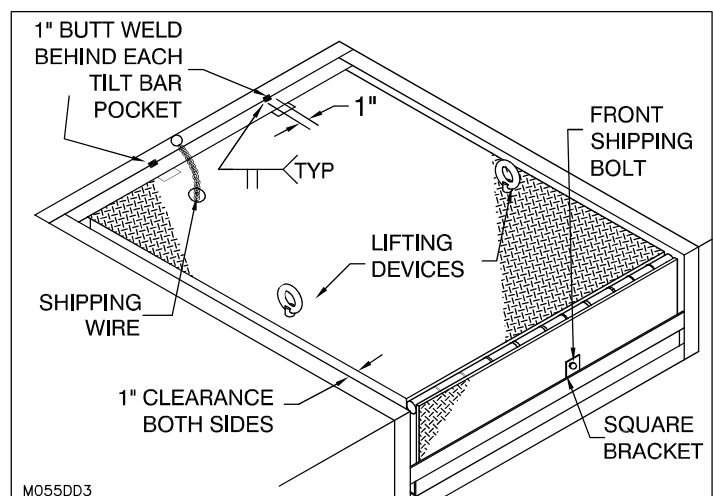

Figure 17: Hoist Leveler with Chain
4. ___ Hoist the leveler into the pit with chain using appropriate lifting devices (See "Figure 17: Hoist Leveler with Chain" on page 13) and position the leveler into the pit opening.
5. ___ Assure that 1" clearance is maintained between the side of the leveler platform and the side pit wall and that the rear angle of the dock leveler is firmly against the rear curb angle of the pit (See "Figure 17: Hoist Leveler with Chain" on page 13).
7. ___ Weld the rear angle of the dock leveler to the rear curb angle of the pit, 1" wide butt weld, at the location of each tilt bar pocket (2 places). (See "Figure 17: Hoist Leveler with Chain" on page 13).
10. ___ Remove the shipping wire. (**CAUTION**, if the shipping wire is not removed, the dock leveler deck and lip will rise once the shipping bolt is removed). Then remove the top shipping bolts and lifting devices. Some units come equipped with a front U-Bracket while others come equipped with a front Half Moon Bracket. If your unit comes with the front U-Bracket then remove the front shipping bolt then remove the U-bracket and clean up the remaining weld to ensure there is no interference with the lip operation. If your unit comes with the Half Moon Bracket, first remove the front shipping bolt and finally remove the Half Moon Bracket and clean up the remaining weld to ensure there is no interference with the lip operation. (See "Figure 17: Hoist Leveler with Chain" on page 13)